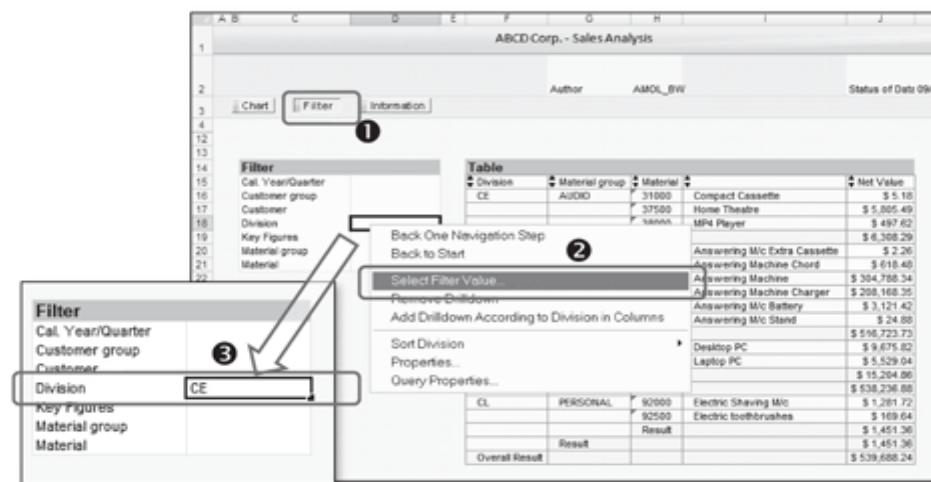

Figure 10.12 Applying Filters in a Workbook
As we mentioned earlier, the Filter button is available in the workbook (1 of Figure 10.12). Clicking on this button displays the filter pane with all of the characteristics and structures used in the query. You can use this pane to restrict the query result to the selected value(s) of the characteristic(s) or to the selected structure element. To apply the filter from the filter pane, select a characteristic or structure and choose **SELECT FILTER VALUE** from the context menu (2).